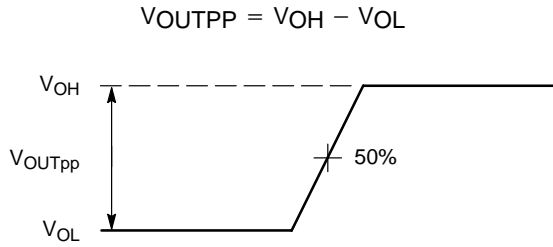

Figure 8. Output Voltage Swing
**Output Swing** – The output swing ( $V_{OUTpp}$ ) is measured between the HIGH and LOW levels of each individual differential or single-ended output. The output voltage swing for each individual output is defined by the following equation and Figure 8.